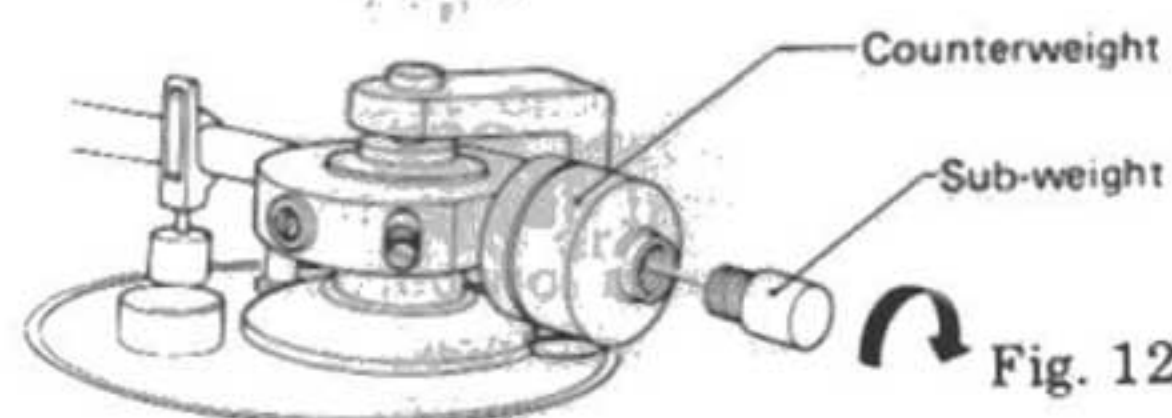

Fig. 12
5. Place your finger under the headshell's finger lift, and hold it between the arm rest and platter. Use one hand to support the tonearm and the other to rotate the counterweight so that the tonearm is perfectly horizontal, without tilting to the headshell side or counterweight side. If the cartridge is too heavy and the horizontal balance cannot be attained, attach the accessory sub-weight to the tonearm's counterweight shaft as shown in Fig. 12.